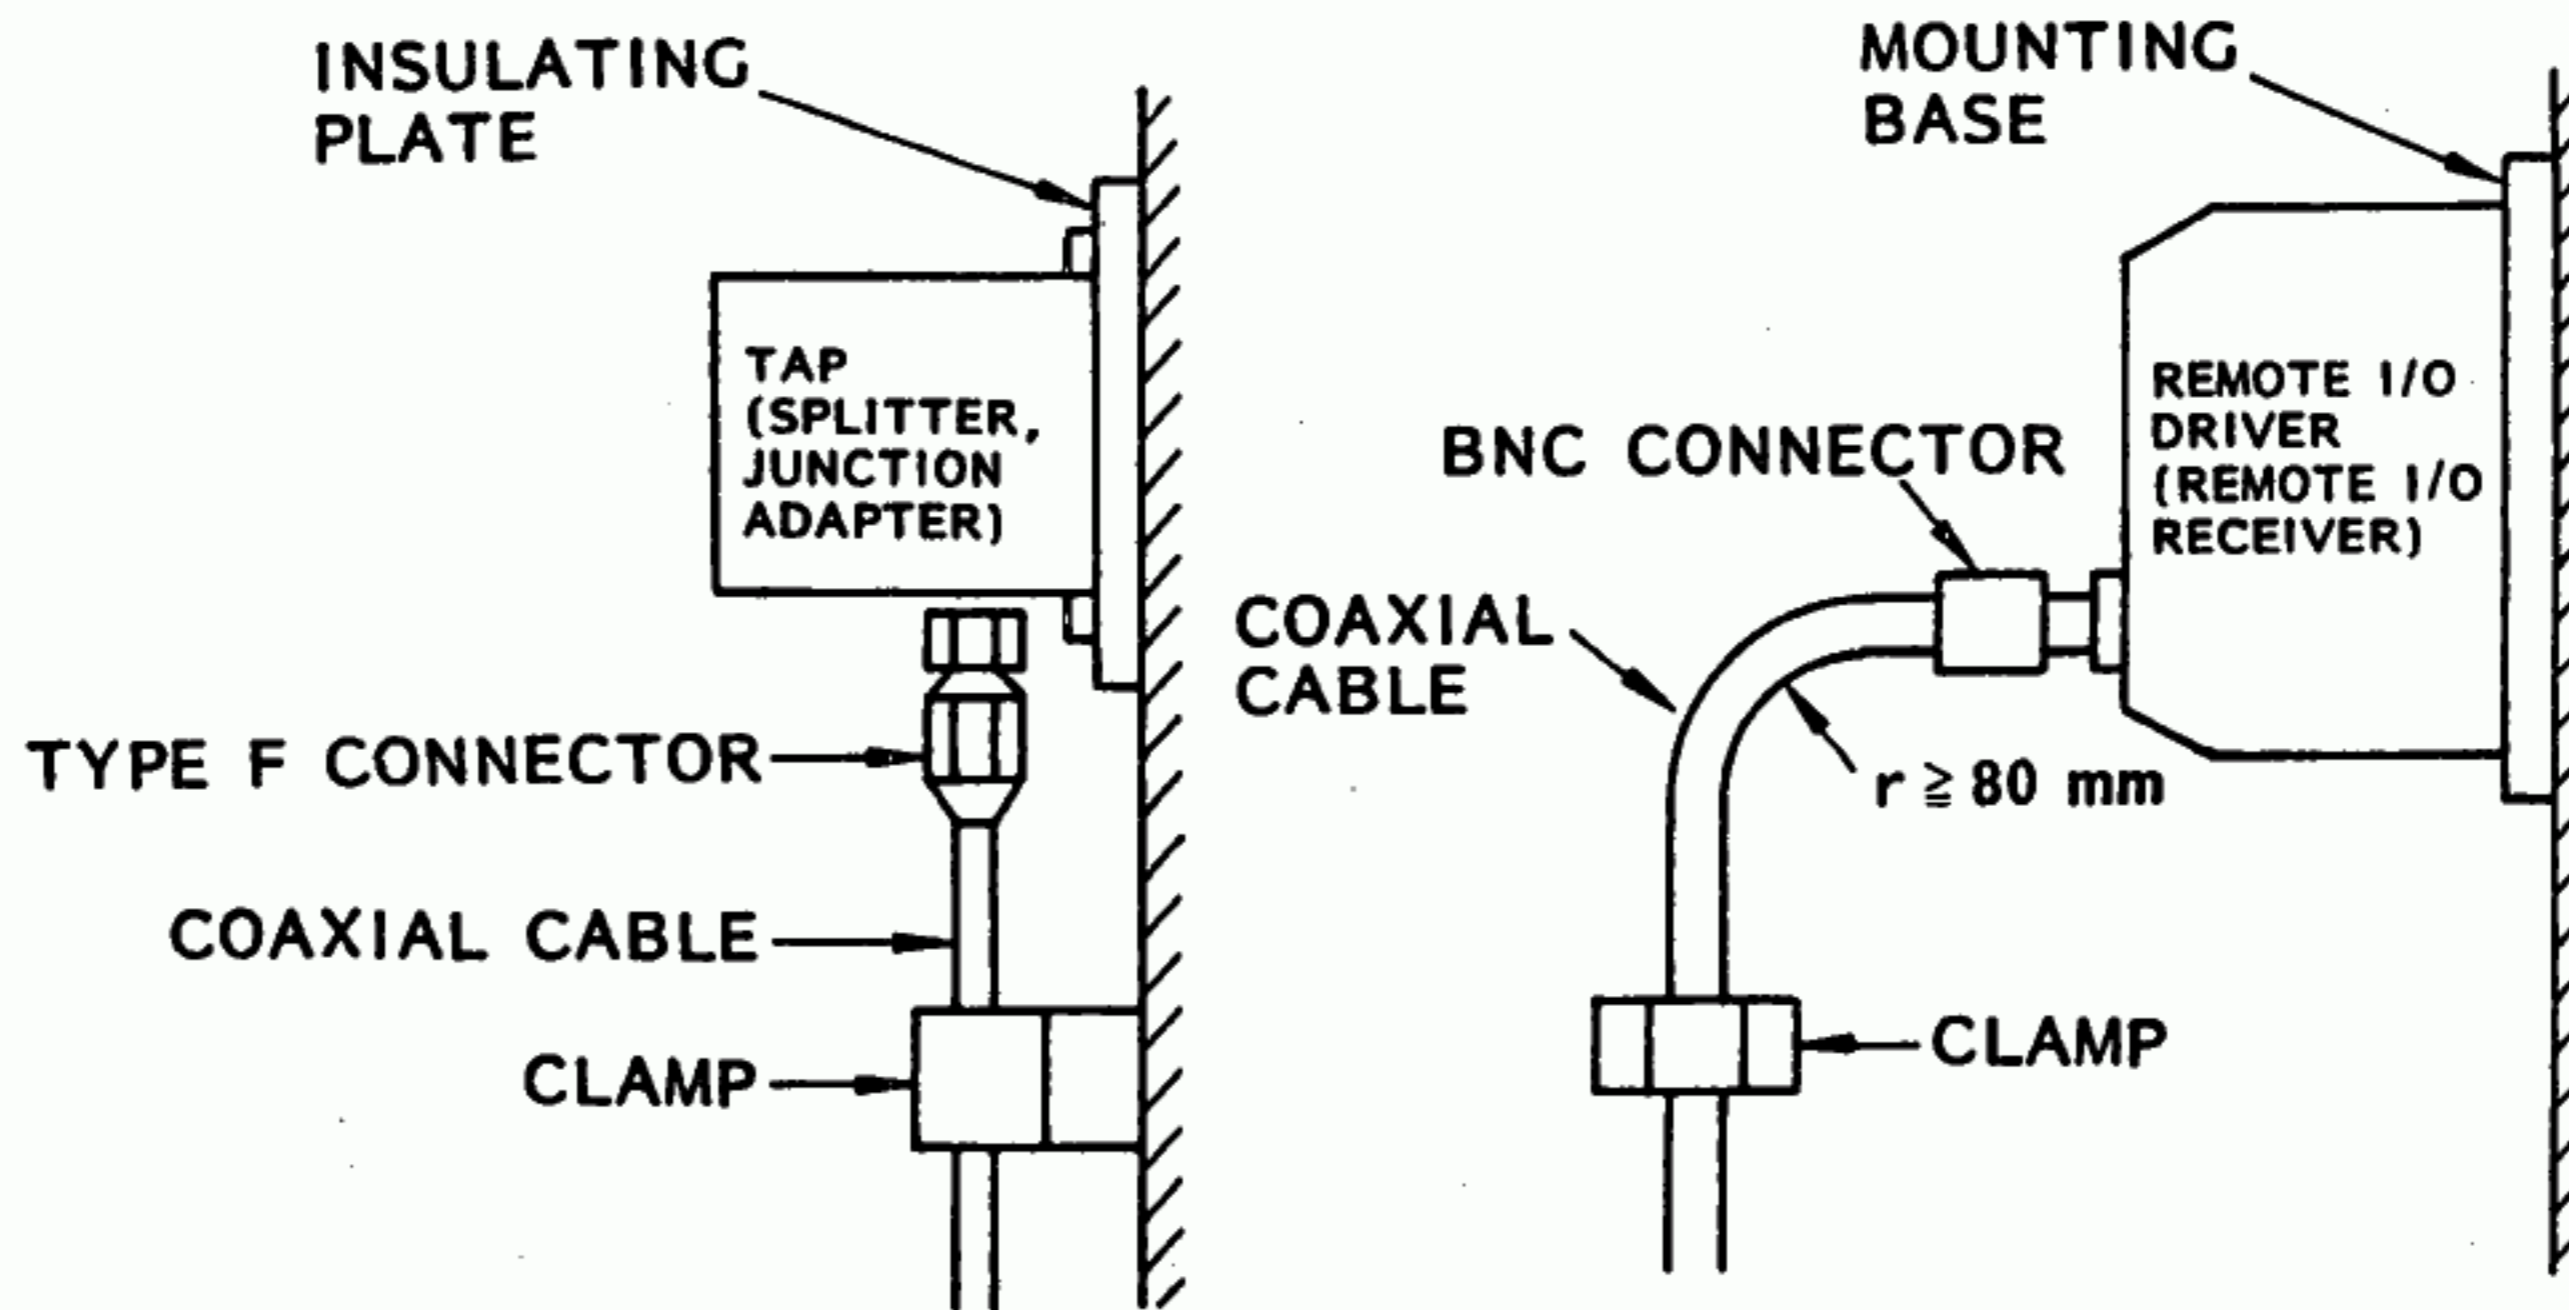

Fig. 7.7 Clamping Coaxial Cables
(4) Firmly tighten type F connector, if used to connect taps or junction adapter. Poor contact may result in transmission error.
(5) When a type F connector or BNC connector is connected to a tap, splitter, junction adapter, remote I/O driver, or remote I/O receiver, clamp the coaxial cable as shown in Fig. 7.7, so that no force is imposed on the connected area.